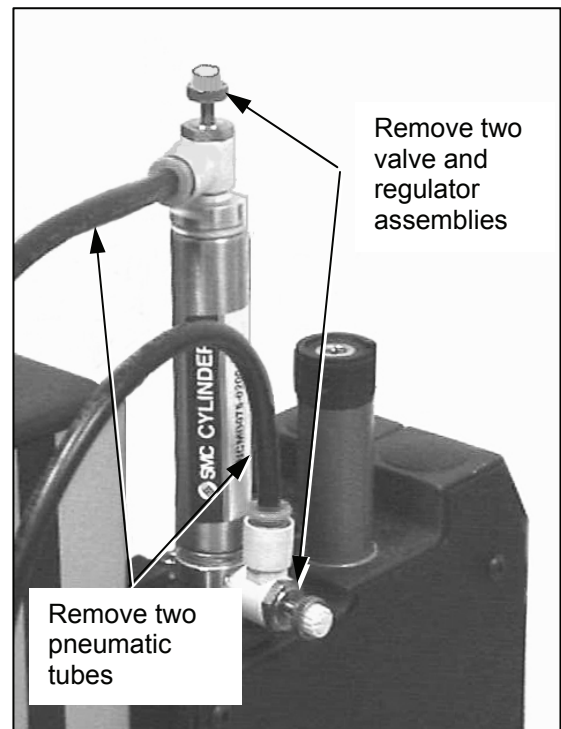

Figure 2-1. Removing Existing Air System Pneumatics
- 3 Note which way each of the two valve assemblies are facing. Remove the existing valve assemblies from the top and bottom of the air cylinder. Clean any pipe joint sealant from cylinders (figure 2-1).